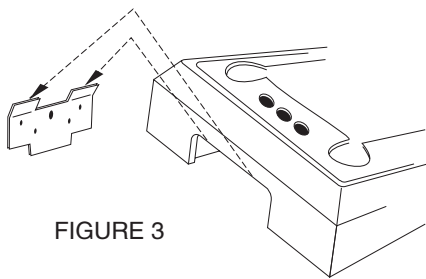

FIGURE 3
9. Set the lavatory onto the bracket. See Figure 3. You may need a helper here. Place level across the lavatory from side to side and check it's plumb. Adjust as necessary.